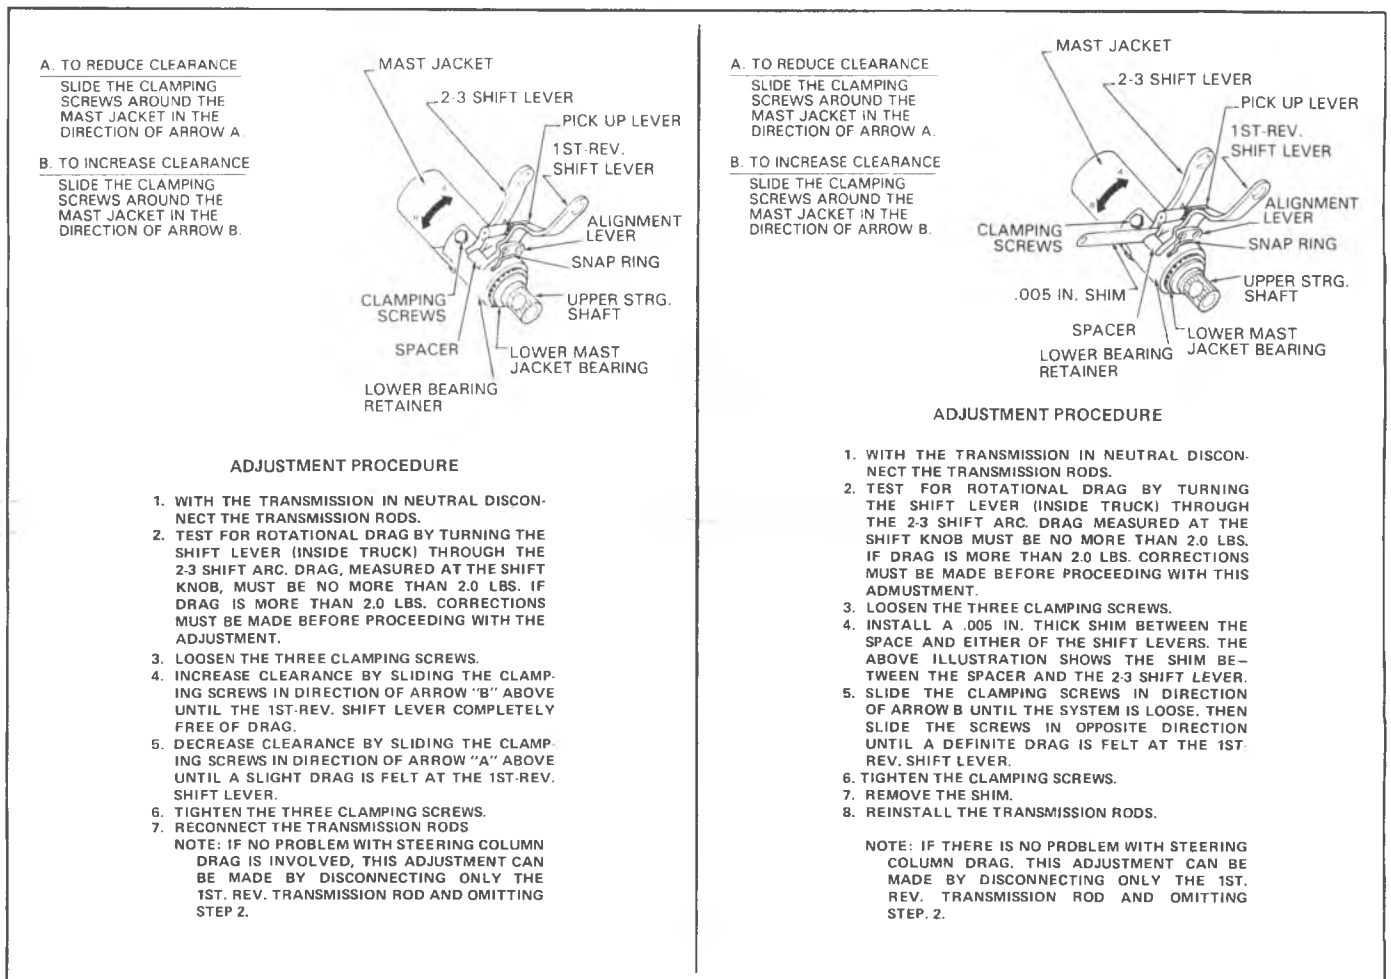

Fig. 3B4-48--Adjusting Lower Bearing-Typical
**Disassembly-Tilt Columns (Fig. 3B4-49)**